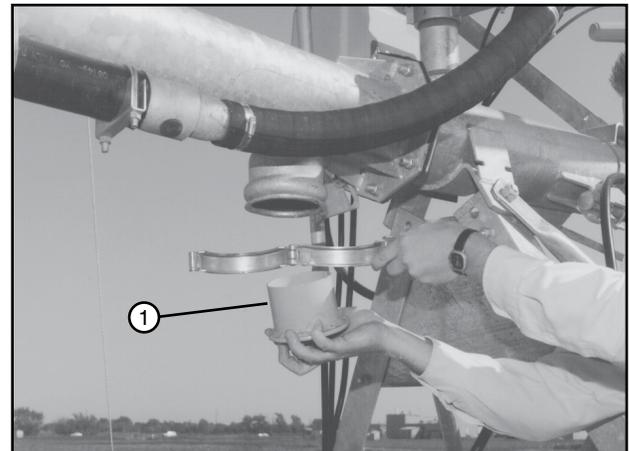

Figure 89-2 1. Sand Trap
4. Remove and clean the sand trap at the last regular drive unit. See Figure 89-2.